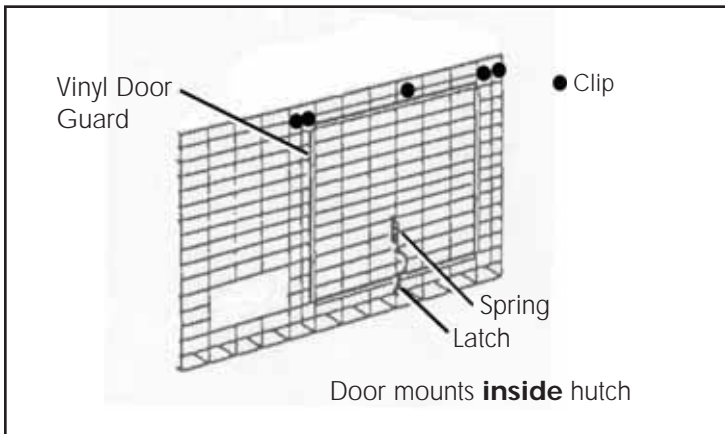

Figure 5
5. Attach the door on the **inside** of the hutch using clips at each ● shown in Figure 5.